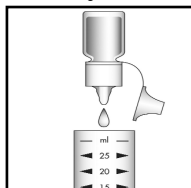

Figure 2
3. Add 10 drops of S-6901 Acidifier Solution to the empty **25 mL sample cup** (fig. 2).